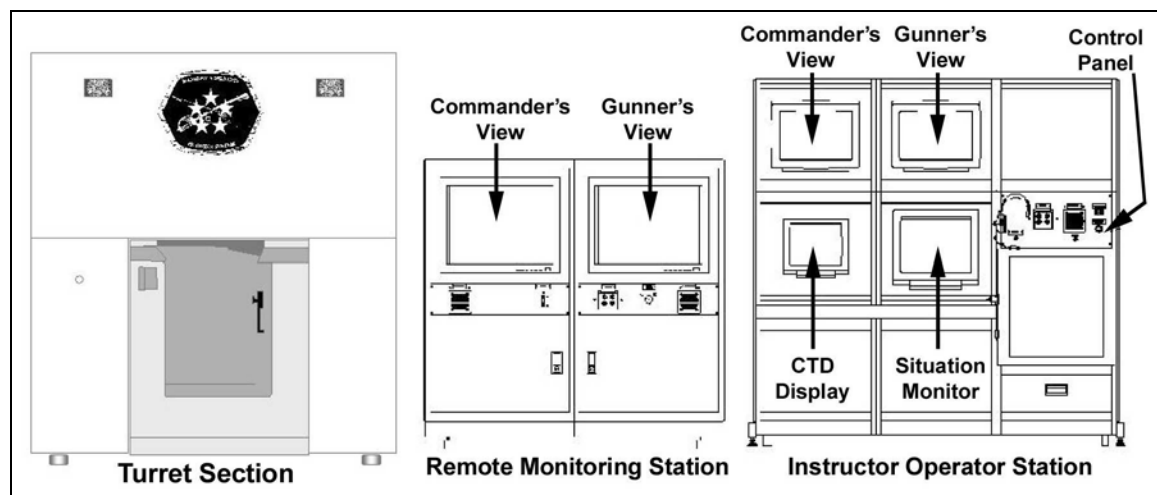

Figure 4-7. Bradley advanced training system (BATS).
b. **Bradley Advanced Training System.** The BATS (Figure 4-7) serves as the gunnery trainer for the Bradley A3. The purpose of the BATS is to train and sustain a crew's ability to perform fundamental gunnery techniques in simulated gunnery and combat scenarios. The BATS is the COFT for the Bradley A3:
(1) The BATS has four components.